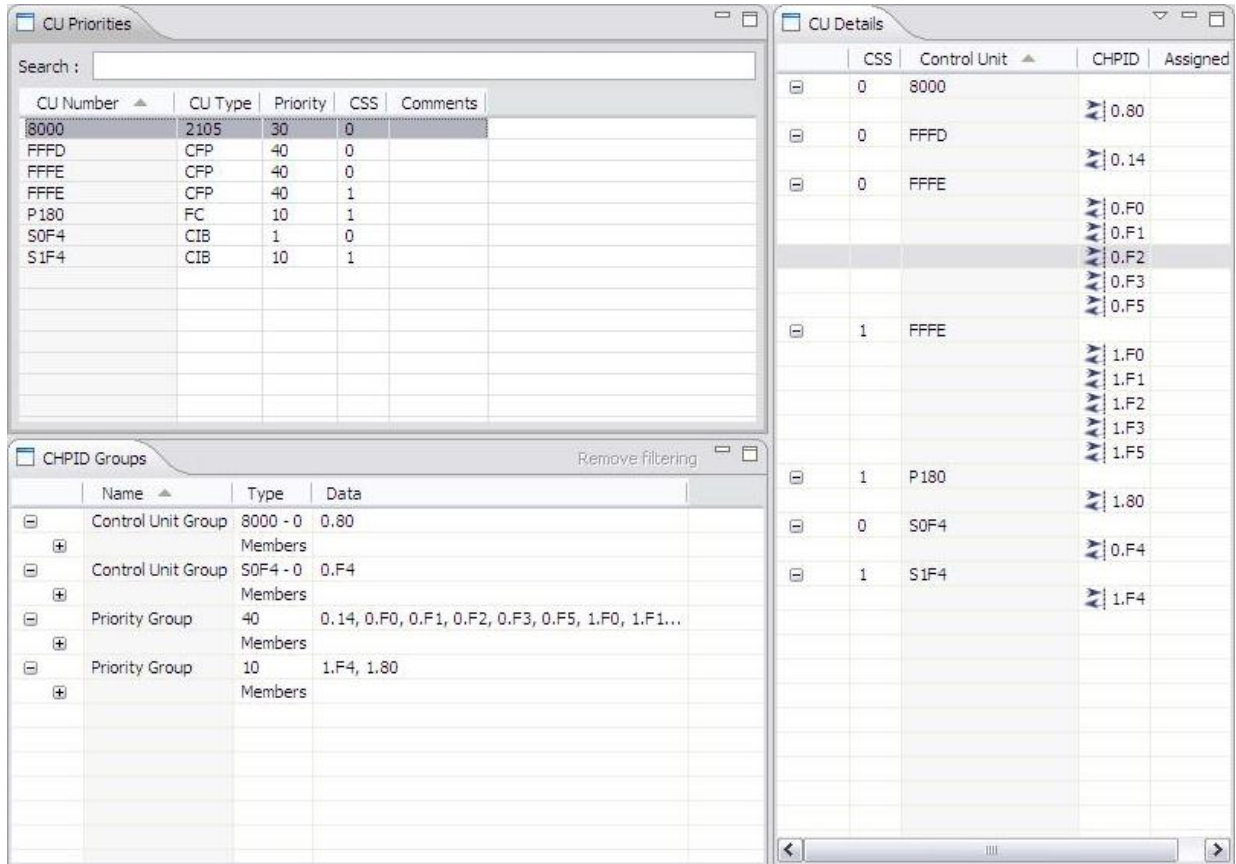

Figure 80. After assigning priorities
2. Perform this step for each row: Type a priority number for the CU in the Priority column. Figure 80 on page 66 shows the CU Priorities pane after you have assigned all priorities.
Before you assign priorities, Control Unit Groups are the only type of group in the CHPID Groups pane. After you assign priorities, this type of group is for control units not sharing the same priority with other control units. Figure 80 on page 66 shows an example. In this example, in the CU Priorities pane:
If you assign the same priority to multiple control units, the tool lists a Priority Group in the CHPID Groups pane. This type of group is for control units sharing the same priority. Figure 80 on page 66 shows an example. In the CU Priorities pane, three control units have the same priority: